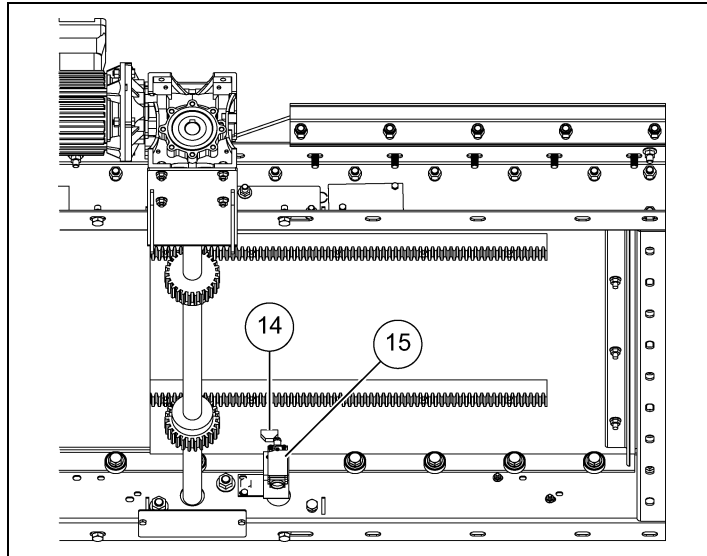
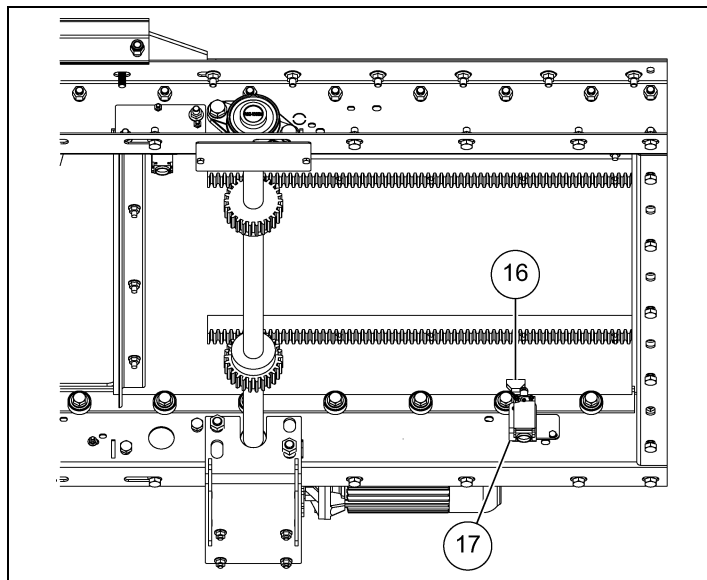

Figure 3H *Closed Position*
Figure 3I *Open Position*
3. Install the switch levers vertically. When the switch target on the gate push in the limit switch arm vertically, the motor will stop. (See Figure 3H and Figure 3I.)